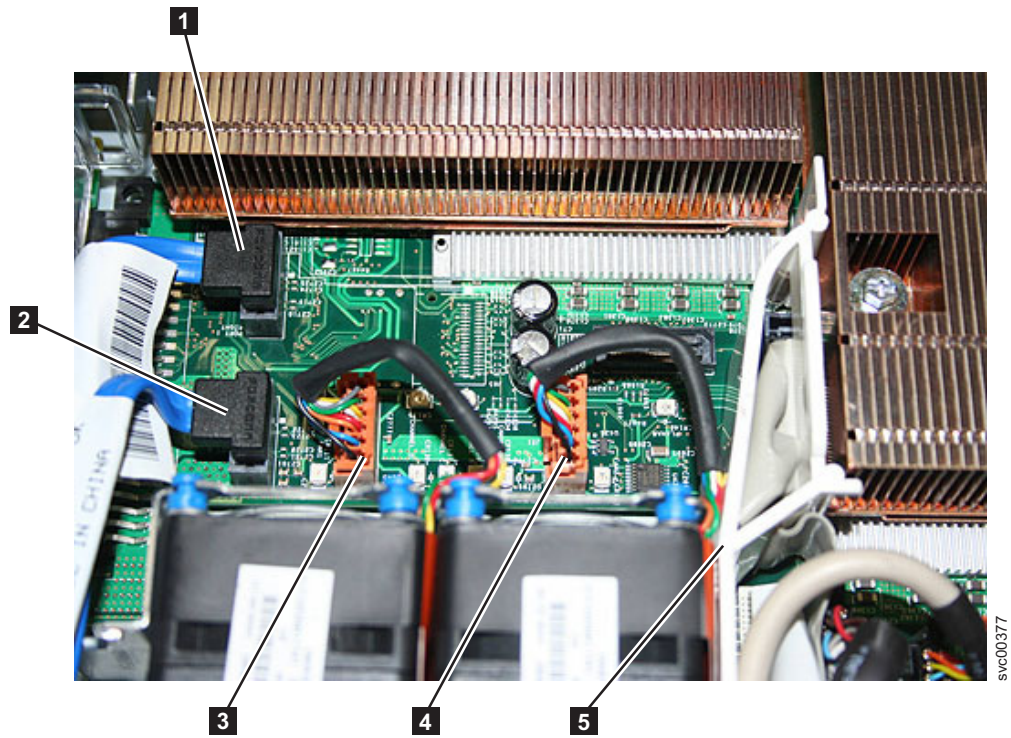

Figure 198. Connectors on the SAN Volume Controller 2145-8G4 system board
6. Disconnect the first set of cables from the system board, which are shown in Figure 198 on page 215. From the left front side of the system board, remove the following: